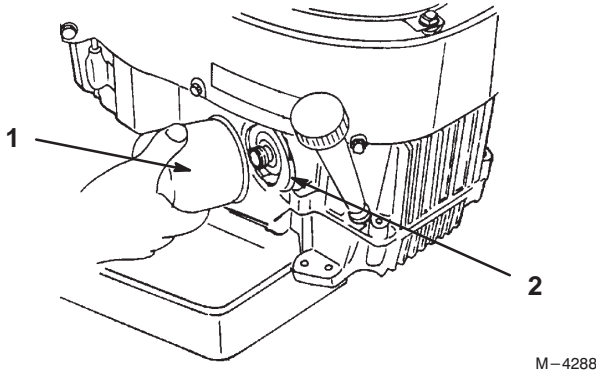

Figure 24
2. Remove the old filter (Fig. 24).
3. Apply a thin coat of new oil to the rubber gasket on the replacement filter (Fig. 24).
4. Install the replacement oil filter to the filter adapter. Turn the oil filter clockwise until the rubber gasket contacts the filter adapter, then tighten the filter an additional 3/4 turn (Fig. 24).